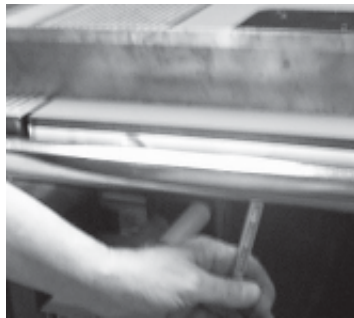

Figure 6
3. Adjust the Router Table up or down as needed. When both table surfaces are parallel, tighten the Keps Nuts (6). (See Figure 6)